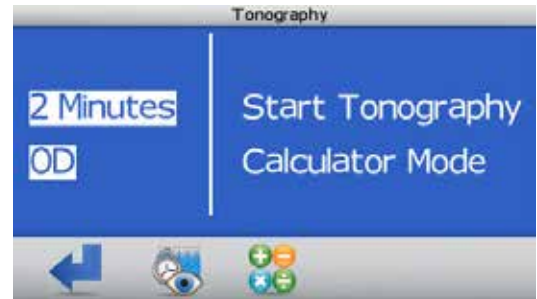

Figure 7-10, Tonography
1. Touch the Tonography icon to acquire tonography data. Refer to Figure 7-10.